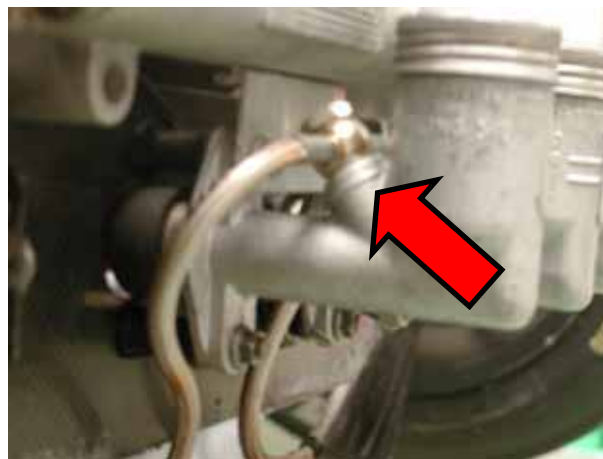

Figure 2: brake pressure sensor installation photo.
- Uninstall the master cylinder mounted inside the brake pump. In Figure 2 is shown the master cylinder corresponding to the front brakes pump. This operation has of course to be repeated even for the rear brakes pump;